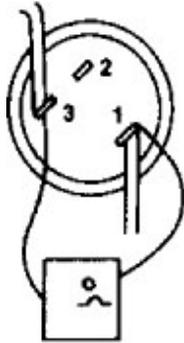

Figure 10. Overload Check
### OVERLOAD CHECK (See Figure 10)
3. Compressor thermal overload, automatic reset type. See Figure 10